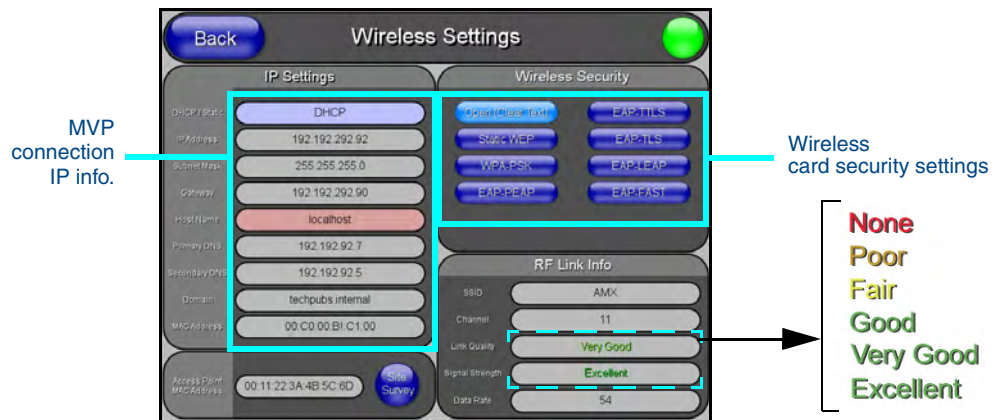

FIG. 17 Wireless Settings page (showing a sample unsecured configuration)
- The descriptions are: **None, Poor, Fair, Good, Very Good, and Excellent** (FIG. 17).